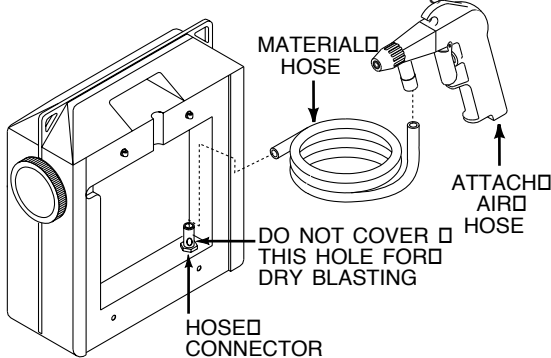

Figure 4 – Model AT125102AJ - 30 LBS
1. Attach the material hose to the hose connector. Attach the opposite end of the material hose to the gun (See Figure 4).